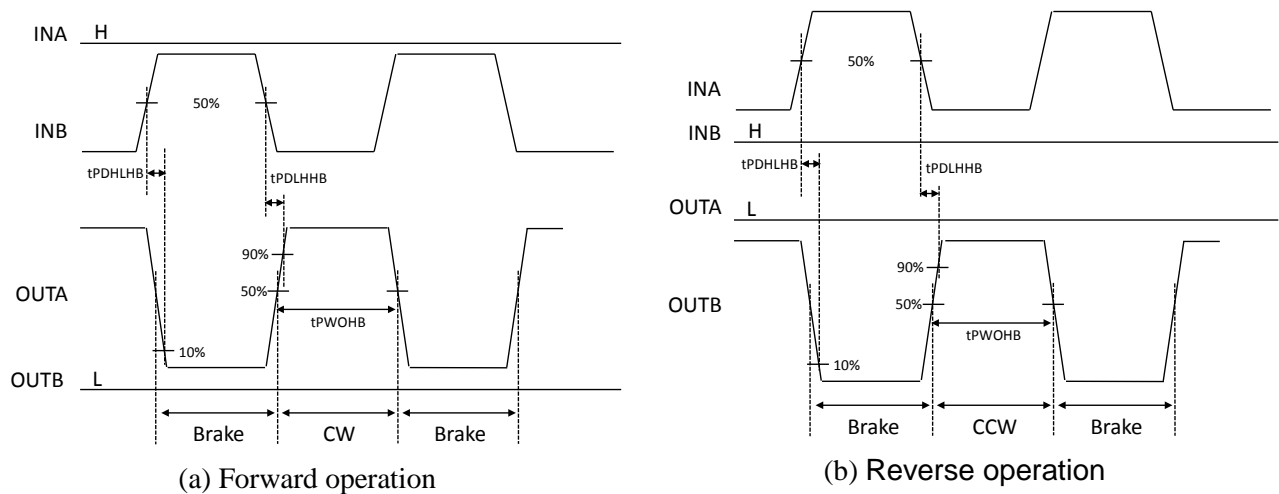
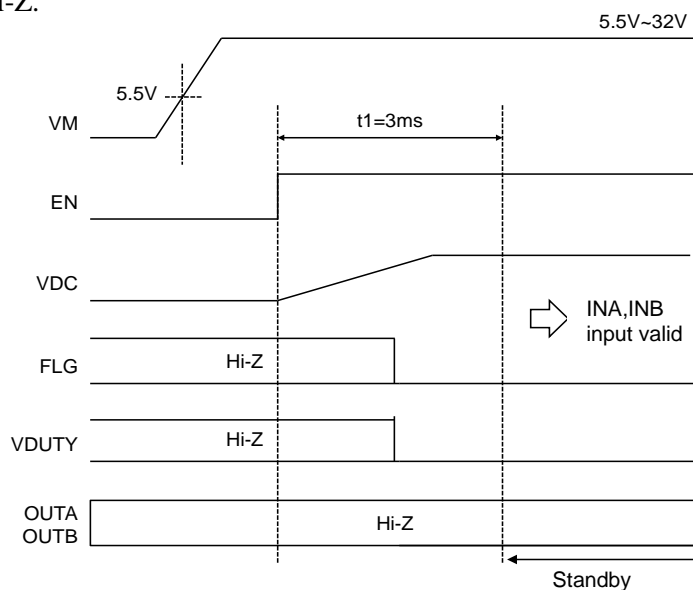
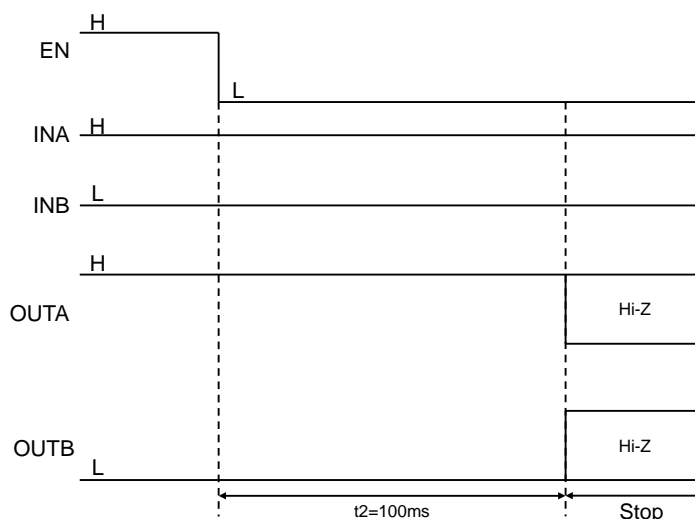

Figure 3. Output delay time timing chart (EN="H")
Figure 8. Timing Chart of EN voltage input after power-up
Figure 9. Timing Chart from EN="H" becomes "L" to OUTA= OUTB=Hi-Z
Note 8. Refer to Figure 3.
Note 10. See Figure 8 and Figure 9 for timing chart of Standby and Stop. See Figure 3 for timing chart of Brake.
4.5V LDO output will rise by applying a 5.5V voltage or more to the VM pin and setting the EN pin = "H". Input the INA and the INB signals 3ms (t_1 period) after the EN pin = "H", waiting for the stabilization of the VDC output. After the certain stabilization time of VDC output (t_1 period), The IC becomes Standby and INA and INB input become valid. Figure 8 is timing chart from VM power supply to INA, INB input is valid.
4.5V LDO output stops after inputting "L" to EN pin. Within 100ms (t_2 period), OUTA and OUTB become Hi-Z(Stop). Do not change input levels of INA and INB, because OUTA and OUTB changes according to input level of INA and INB during t_2 period. Figure 9 is timing chart from IN="H" becomes "L" to OUTA=OUTB = Hi-Z.